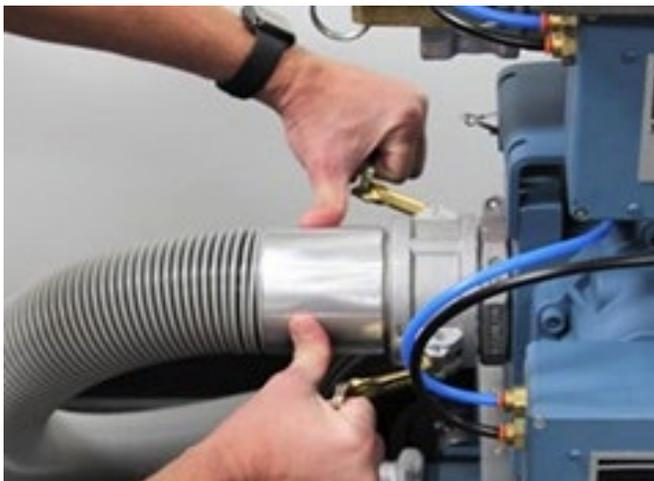

Figure 4: Connect Prover Hose to Master Meter
2. Connect the 25-foot flexible Prover Hose to the outlet of the Field Meter, and connect the other end of the hose to the inlet quick-disconnect coupling of the appropriate Master Meter (Figure 4).